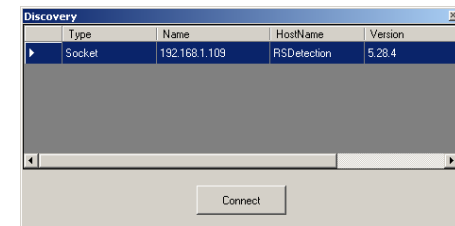

Figure 2: Discovery Window
- If using Ethernet to communicate with the RSDetection* a Discovery window will appear as shown in Figure 2. This window will not appear if using USB or RS-232. Highlight the row containing the IP address of the RSDetection* unit and click the Connect button.